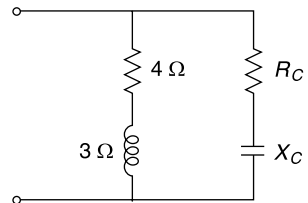

Fig. 5.60 Circuit diagram for Ex. 5.85
5.85 For the network shown in Fig. 5.60 find the maximum value of R_C beyond which the circuit will not resonate.